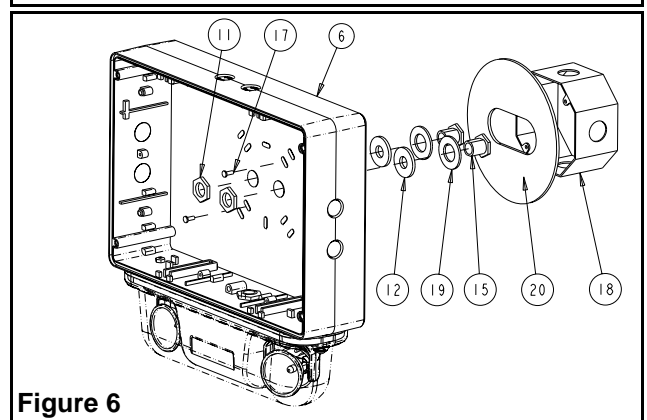

Figure 6
- a. Remove the backplate from the packaging. Determine the proper knockouts to remove for mounting to a junction box (see fig.6).
- d. Mount parts 11, 12, 15 & 19 to backplate, as shown in fig. 6, and reinstall the backplate to the frame using the tamper-proof screws (use the supplied bit).